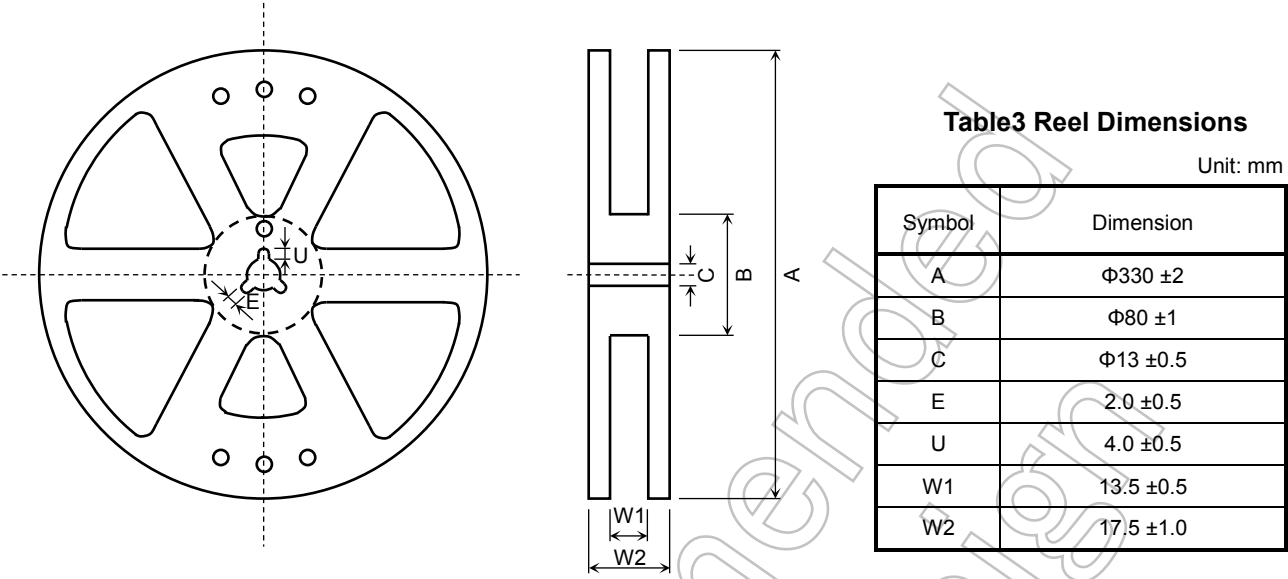

Figure 4 Reel Form
- (1) Material: Plastic
- (2) Dimensions: The reel dimensions are as shown in Figure 4 and Table 3.